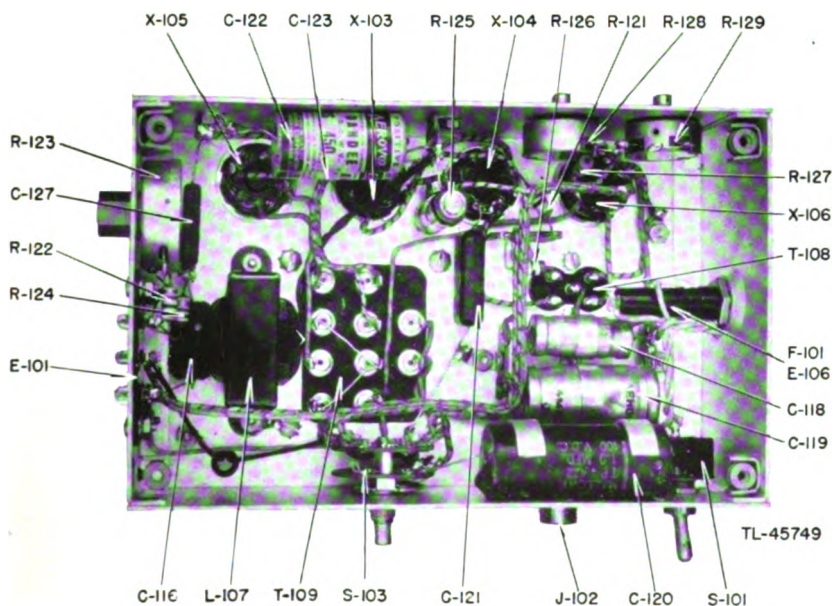

Figure 8. Audio modulator, bottom view.
- (1) The nut holding the ON-OFF switch.
- (2) EXTERNAL MODULATION cap.
- (3) MODULATION knob.
- d. Remove the chassis carefully, taking precautions not to damage meter shield and components located on the under side of the power supply (fig. 8).